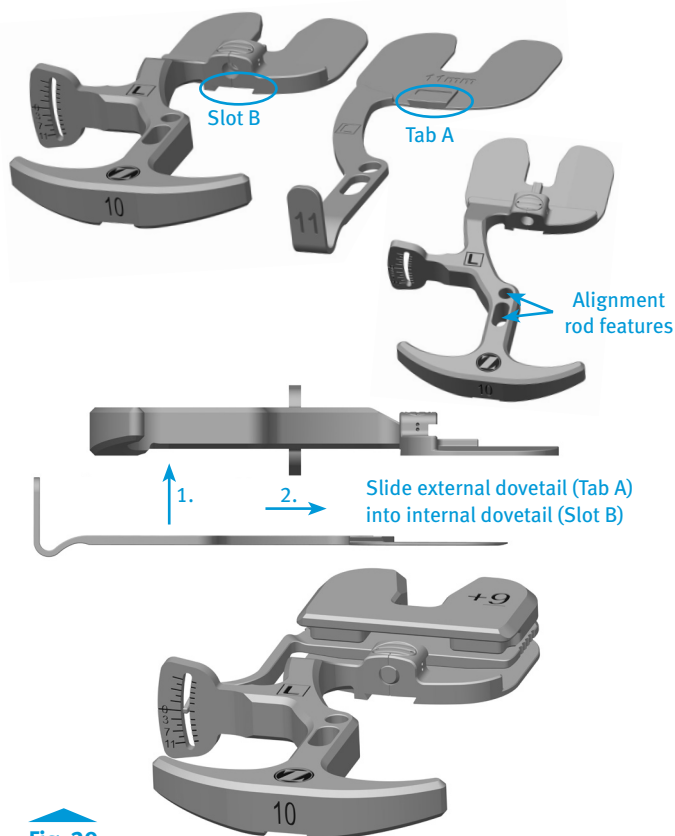
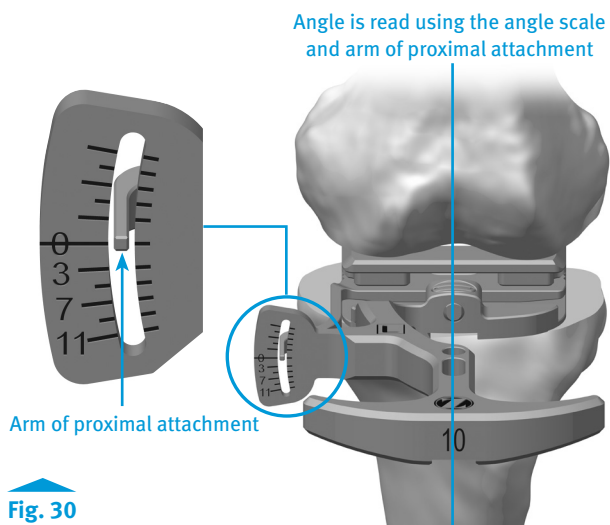

Fig. 29
Fig. 30
- Remove all the osteophytes and complete the initial ligament balancing. Place the leg in extension. Assemble the *Zimmer FuZion* Spacer Block (Fig. 29). Insert the *Zimmer FuZion* Spacer Block into the extension gap (Fig. 30).
- While assessing the gap, it is very important to align the spacer block's center pivot of the femoral paddle with the center of the knee and the AP Axis of the tibial (medial 1/3 of the tibial tubercle and the anterior insertion of the posterior cruciate) (Fig. 30).
Note: Use the +0mm *Zimmer FuZion* Femoral Paddle to evaluate the joint space prior to resection. Add the +9mm *Zimmer FuZion* Femoral Paddle to the +0mm *Zimmer FuZion* Femoral Paddle (attachment is magnetic) to evaluate the joint space after femoral condyles have been resected (Fig. 29).
- Zimmer FuZion* Shims can be added to bottom of *Zimmer FuZion* Spacer Block to increase the construct thickness and achieve the proper joint tension (Fig. 29).
- Zimmer FuZion* Shims are available for 11, 12, 13, 14, 16, 18, and 20mm construct thicknesses (default thickness of spacer block is 10mm) (Fig. 29).
- The angle scale is on the medial side of the instrument should read 0° indicating a rectangular gap. If needed, balance the extension gap using ligament release (Fig. 30).